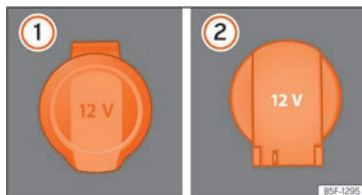

Fig. 148 12 volt power socket: ① inside the front armrest, ② in the luggage compartment.
- Lift the power socket cover »» Fig. 148 ①.
- Lift the power socket cover »» Fig. 148 ②.